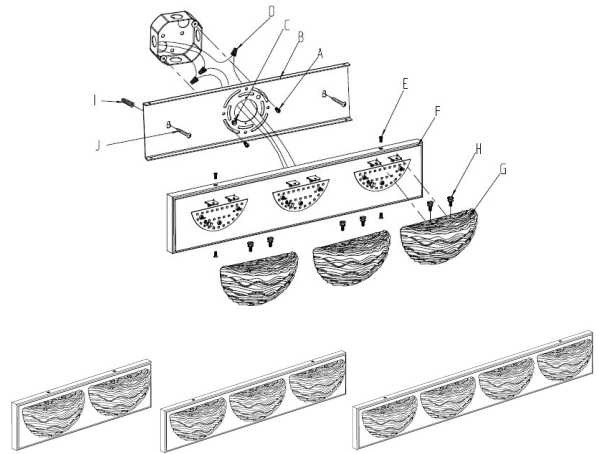

Fig. 2
CONNECTION THE WIRES (Fig. 2)
6. Connect the electrical wires as shown in Fig. 2, making sure that all wire connectors are secured. If your junction box has a ground wire (green or bare copper), connect the fixture's ground wire to it. Otherwise, connect the fixture's ground wire directly to the mounting plate (B) using the green screw provided.